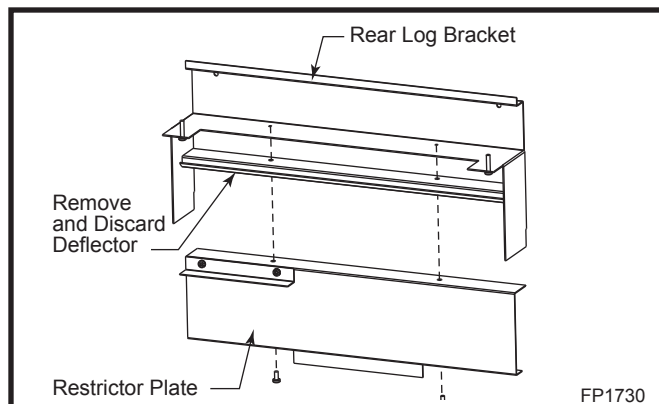

Fig. 16 36XDV restrictor plate installation.
2. Replace the deflector rear log bracket with the restrictor plate to the rear log bracket using existing mounting holes and screws. (Fig. 16) Discard deflector.